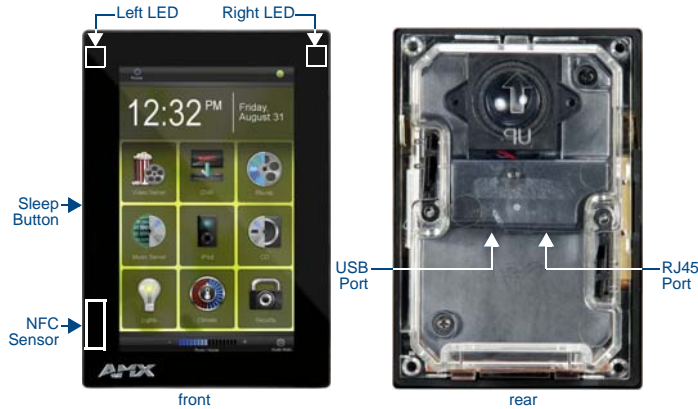
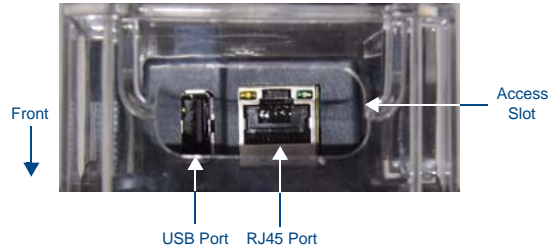
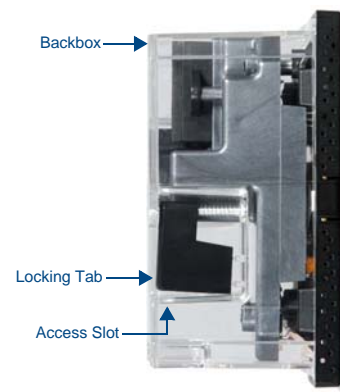

FIG. 1 MXD-430
FIG. 2 Bottom View - showing RJ45 and USB ports
FIG. 3 MXD-430 Back Box (Side View)
USB peripherals (mouse, keyboard, etc.) may be connected to either of the two USB ports on the rear of the device (see FIG. 1). The connectors are accessible via the Access Slot shown in FIG. 2, and FIG. 3.
Power for the MXD-430 is supplied via Power Over Ethernet (PoE), utilizing an AMX-certified, capacitive touch-compliant PoE injector such as the PS-POE-AF-TC High Power PoE Injector (FG423-83) or other approved AMX PoE power source. The incoming Ethernet cable should be connected to the RJ45 port on the MXD-430 (FIG. 2).
These locking tabs are only extended AFTER the Backbox is inserted into the wall (FIG. 3)..
- Remove the knockout from the backbox to open the access slot (FIG. 3), and thread the incoming wiring through the hole
- For additional strength, #4 mounting screws (not included) may be secured via mounting holes located at the corners of the MXD-430 (see FIG. 1).